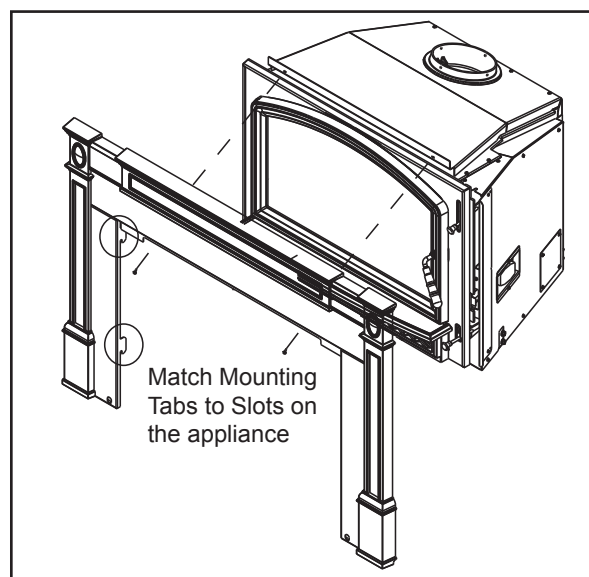

Figure 23.4
11. Slide surround and trim over the top of the insert into place matching the mounting tabs on the metal sides with the slots on the insert. **Figure 23.4.**
12. Align the 2 screws in the top metal surround piece to the 2 alignment holes on the appliance top. Secure in place. **Figure 23.4.**